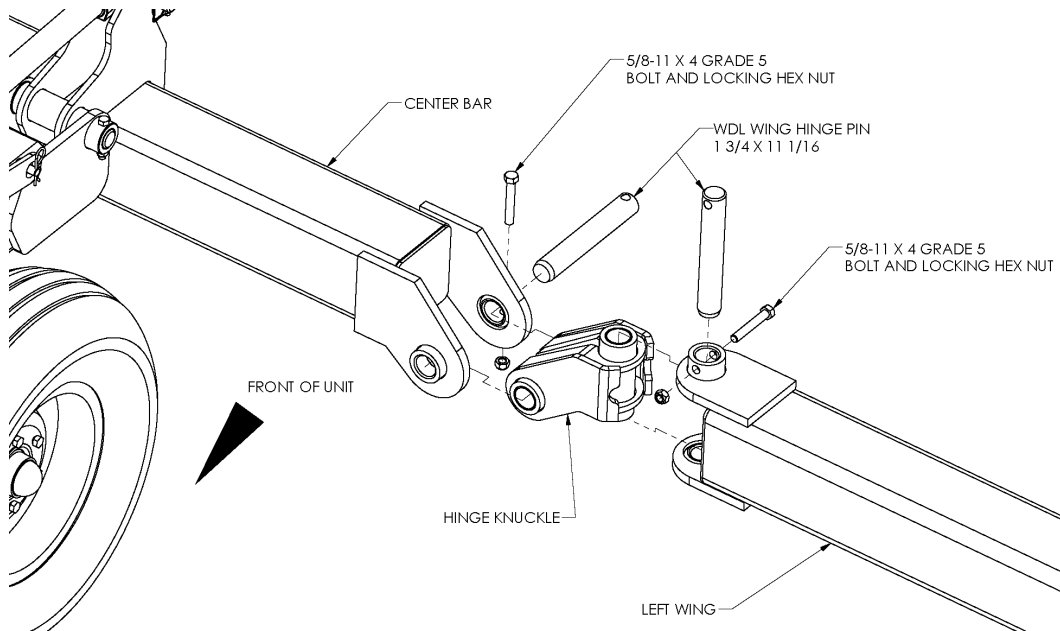

Figure 7
1. Attach the hinge knuckles to the center bar. Use 1 3/4" diameter hinge knuckle pins, 5/8" x 4" grade 5 bolts, and locking hex nuts. Refer to Figure 7.
*NOTE: Be sure the wings are orientated correctly. Both wings are marked left hand and right hand and a visual reference can be made by looking at Figure 7 and 8.